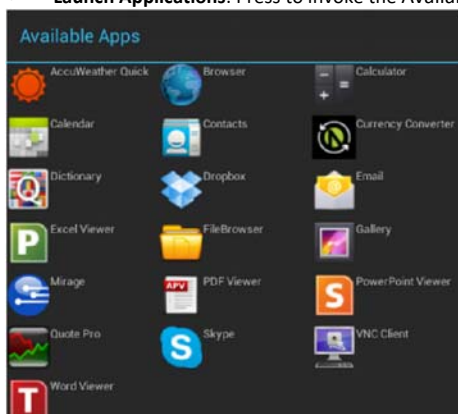

FIG. 142 Available Apps window,
- **Launch Applications:** Press to invoke the Available Apps window, which provides shortcuts to all Apps loaded on the panel (FIG. 142):.